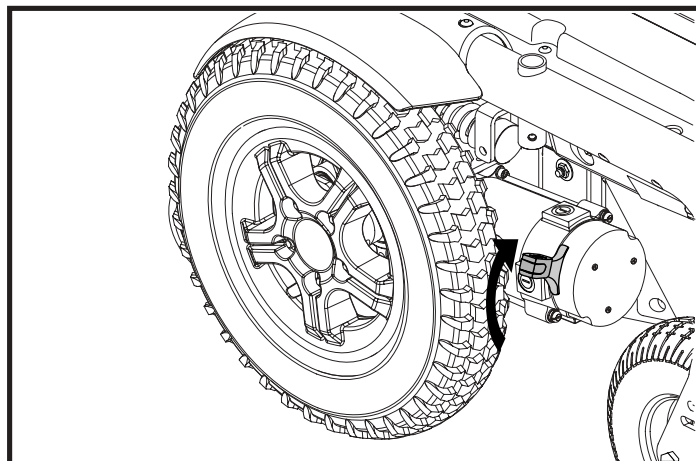

Figure 9. Drive Mode (Drive Engaged)
2. Pull the manual freewheel levers up for drive mode (drive engaged). See figure 9.